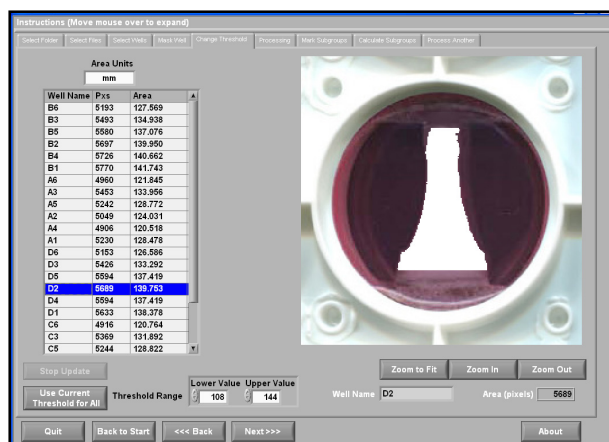

Figure 26. Processed well images of the anchor file only.
4. The user may choose *USE CURRENT THRESHOLD FOR ALL* to employ the *LOWER VALUE* and *UPPER VALUE* selected for the current image for all 24 wells if 6-well plates are used and all 96 wells if 24-well plates are used (Fig. 26). This selection will cause the software to evaluate each well in the anchor image with the current threshold. The user may choose not to use the current threshold for all the wells by selecting *STOP UPDATE* during area evaluation of the anchor image. When the threshold is acceptable, select *NEXT* to continue.